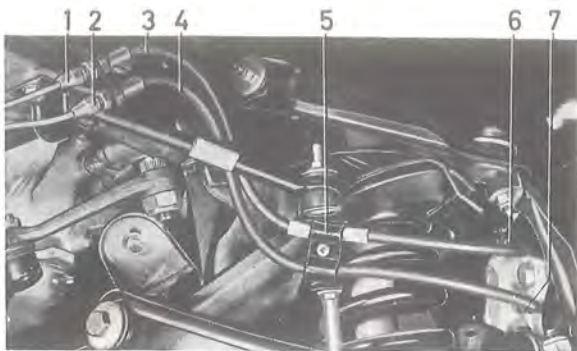

Fig. 5-19. Fitting the front brake hoses
3. Remove the clip (5, Fig. 5-19). Disconnect the connection (2) and the lower hose (4) from the bracket. Place the protective casing on the brake lines to prevent unnecessary leakage. Disconnect the connection (6) for the upper hose from the brake.
2. Fit the hoses and their connection as well as the guide clip as shown in Fig. 5-19. It is important that the hoses are fitted in the correct way, that is, without being tensioned and with the linkage arms unloaded. Remove the plug for the venting hole in the brake fluid container cover.